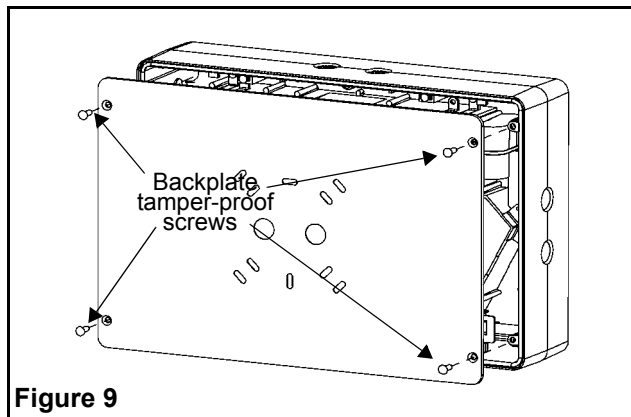

Figure 9
2. Remove backplate by unscrewing the four tamper-proof screws holding the backplate to the frame (see fig. 9)